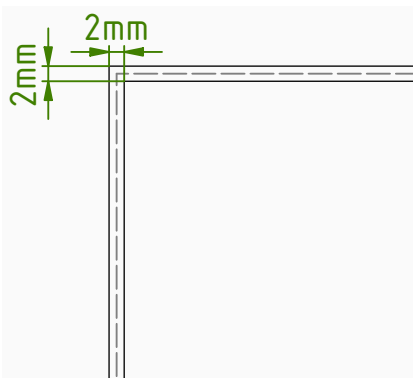

Figure 1
1. Create a printing plate carrying the layout of your finishing job to determine the position of the processing rules on the impression cylinder (Figure 1).